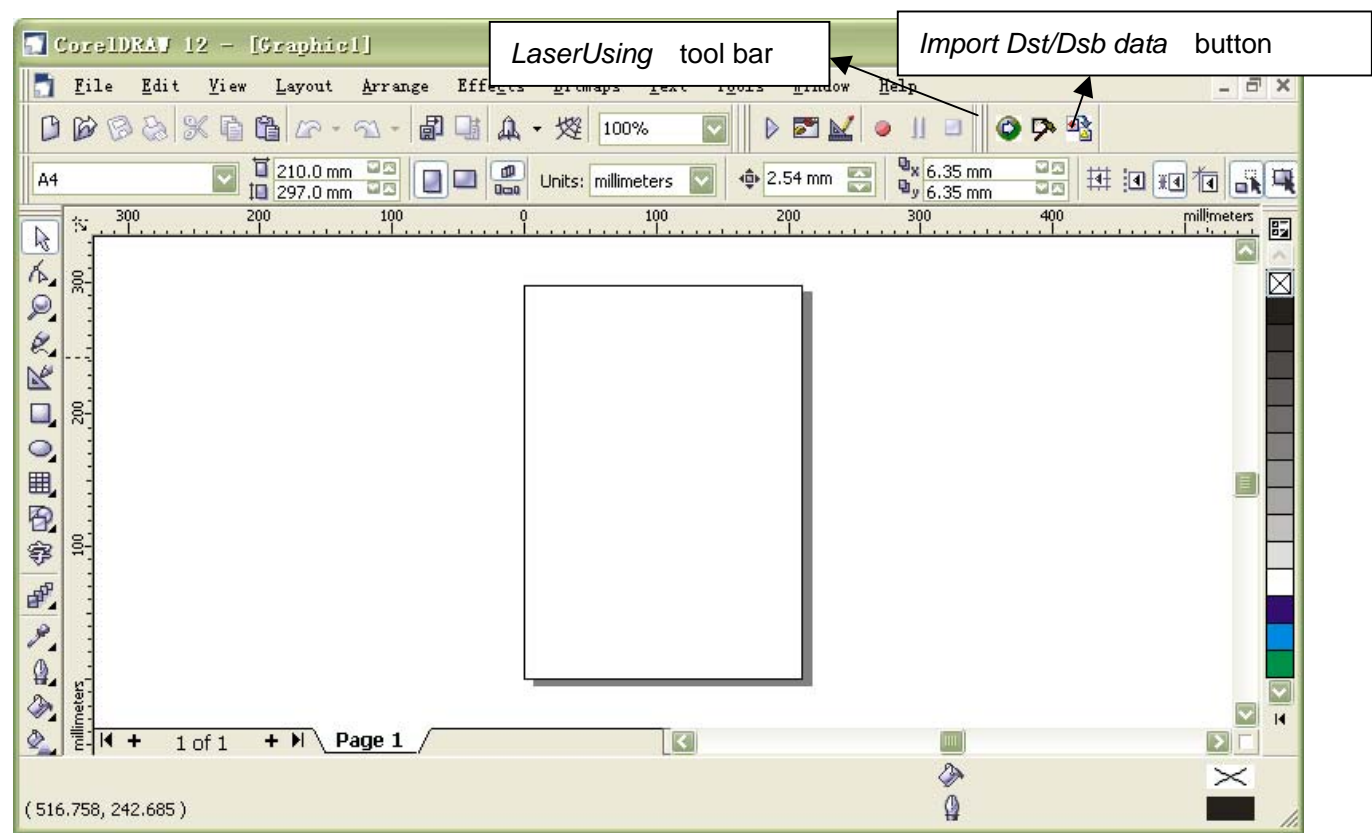
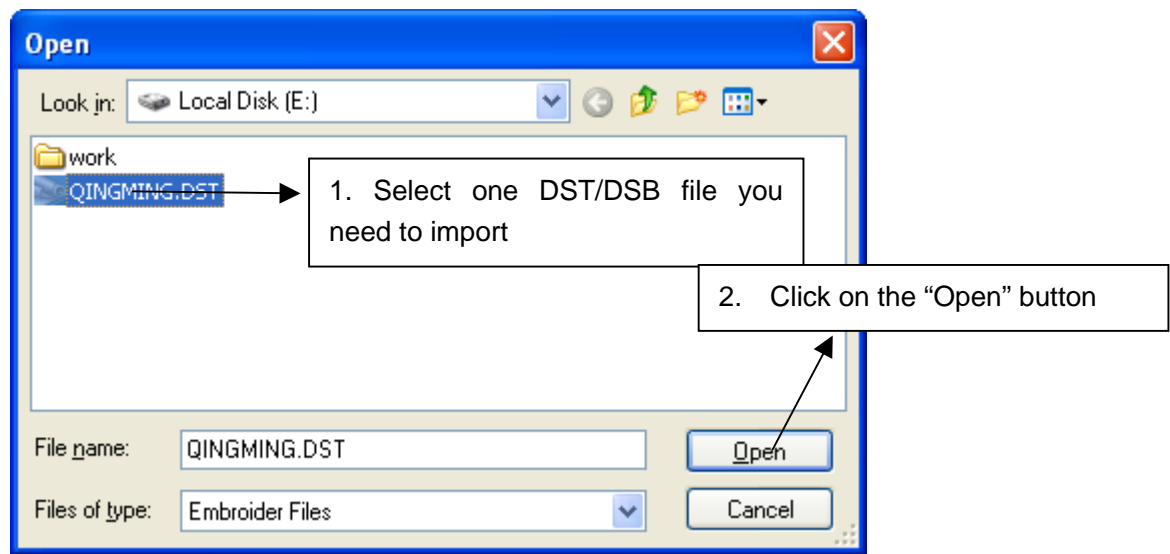
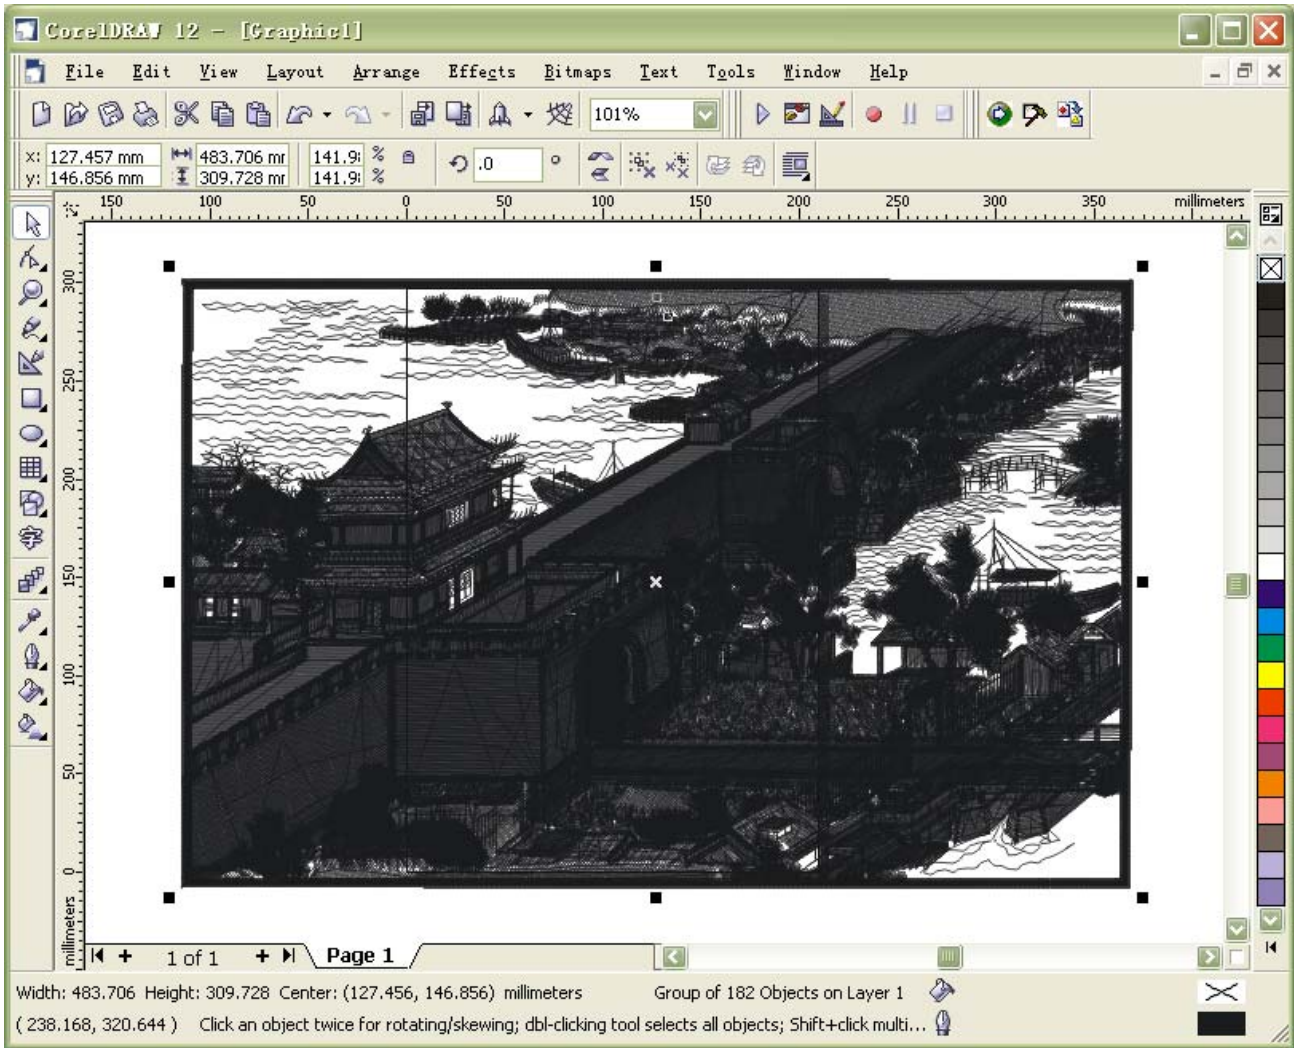

Figure 1-21
Figure 1-22
Figure 1-23
1.4.3 As shown in figure 1-21, click on the *Import Dst/Dsb file data* button in the *Laser Using* tool bar, a menu as shown in figure 1-22 will pop up:
Select one DST (or DSB) file you need to import (eg: QINGMING.DST in the dialog box as shown in figure 1-22). Then click on the *Open* button, the imported DST (or DSB) file will be showed in CorelDraw, just as shown in figure 1-23: